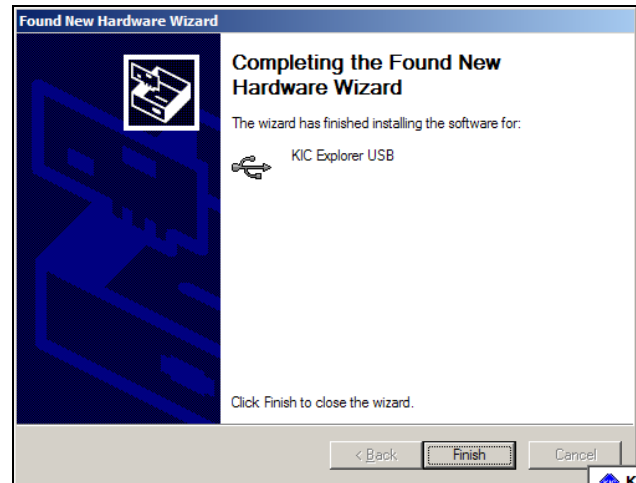

Figure 202: Windows Completing Found New Hardware Wizard
14. Windows will begin installing the *KIC Explorer* USB software drivers. When completed a finished message will appear. Select the "Finish" button. See Figure 202